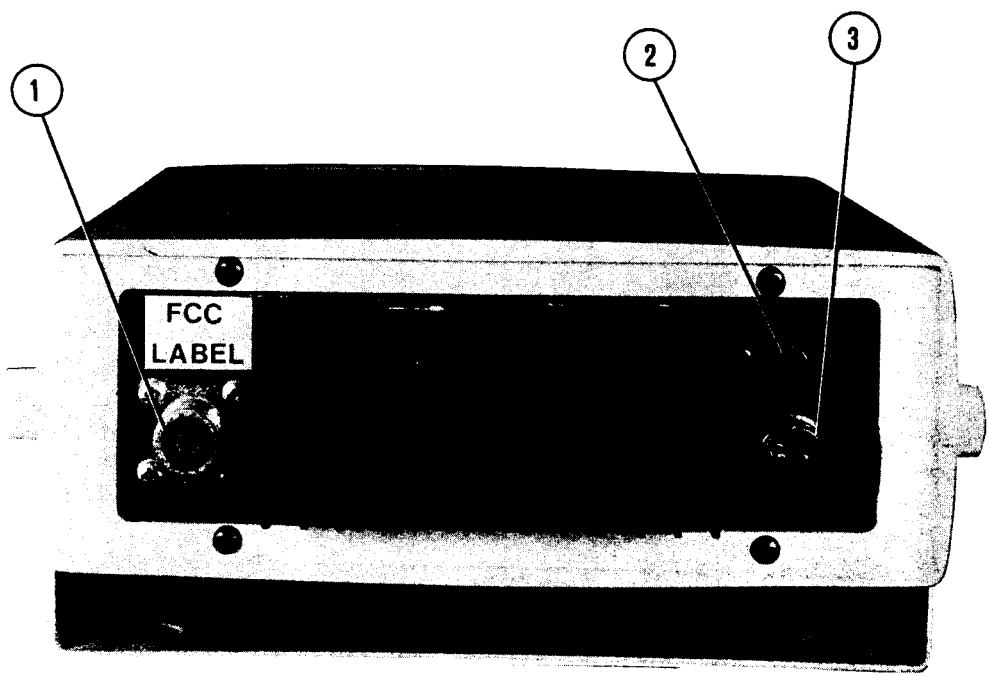

Figure 3-2 CLIPPER 28 Rear Panel Connectors
See Figure 3-2 for the location of the unit rear panel connectors.
1. Connect antenna to ANTENNA Jack J101 (1, Fig. 3-2) and DC power cable to POWER DC 13.6V Jack J103 (3, Fig. 3-2).